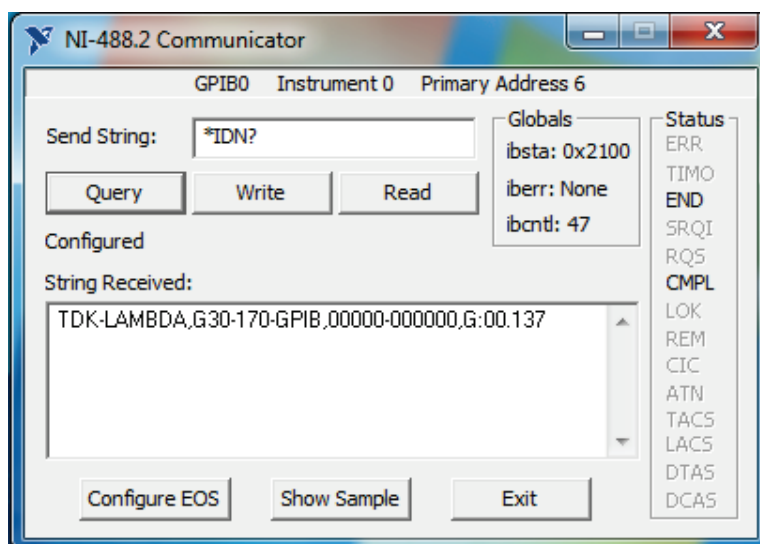

Figure 7–6: ID String Query
NI-488.2 Communicator appears. Refer to Figure 7–6.
- Click Query. Refer to Figure 7–6.